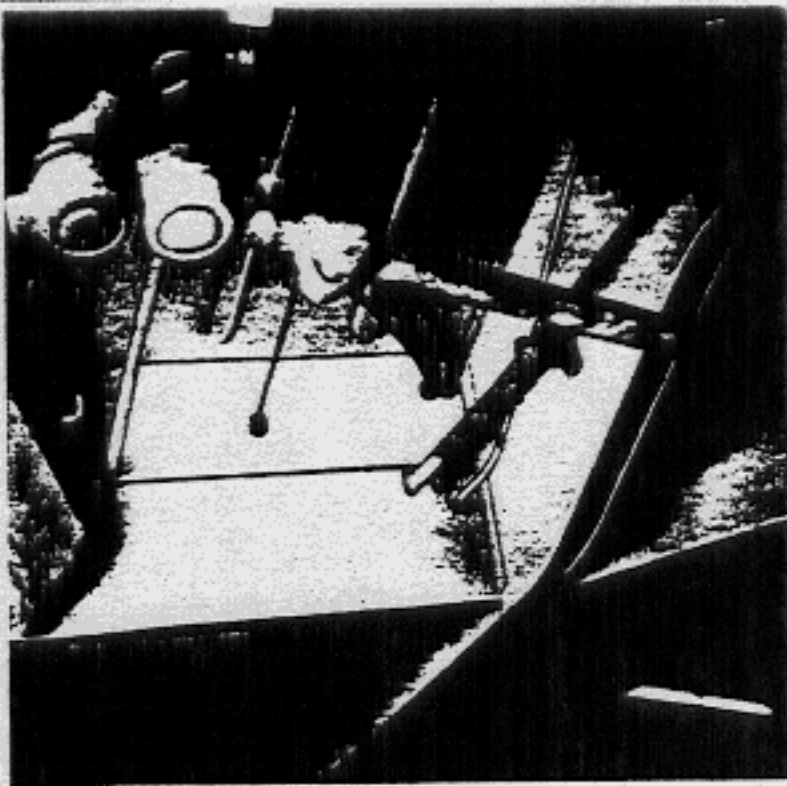

Fig. 7
- 8 - Mark off and drill two holes (14 and 10 mm) in the load compartment, in line with the 12th rib in the floor plate (seen in driving direction) and as near to the floor as possible (Fig. 7).